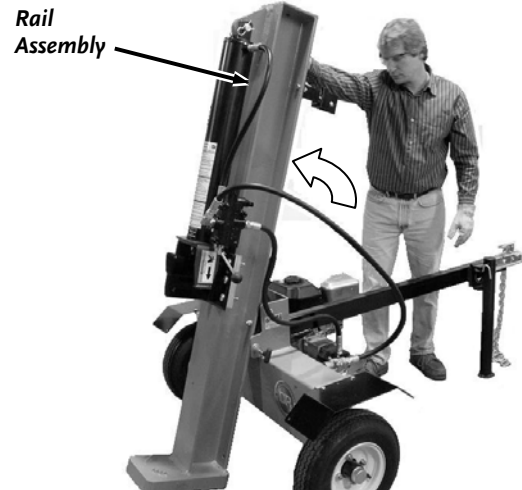

Figure 41
3. Block the wheels and stand the rail assembly up into a vertical position (**Figure 41**).